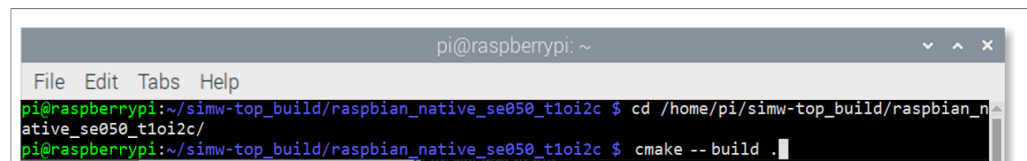

Figure 20. Build project examples
4. Build the project examples, as shown in Figure 20: